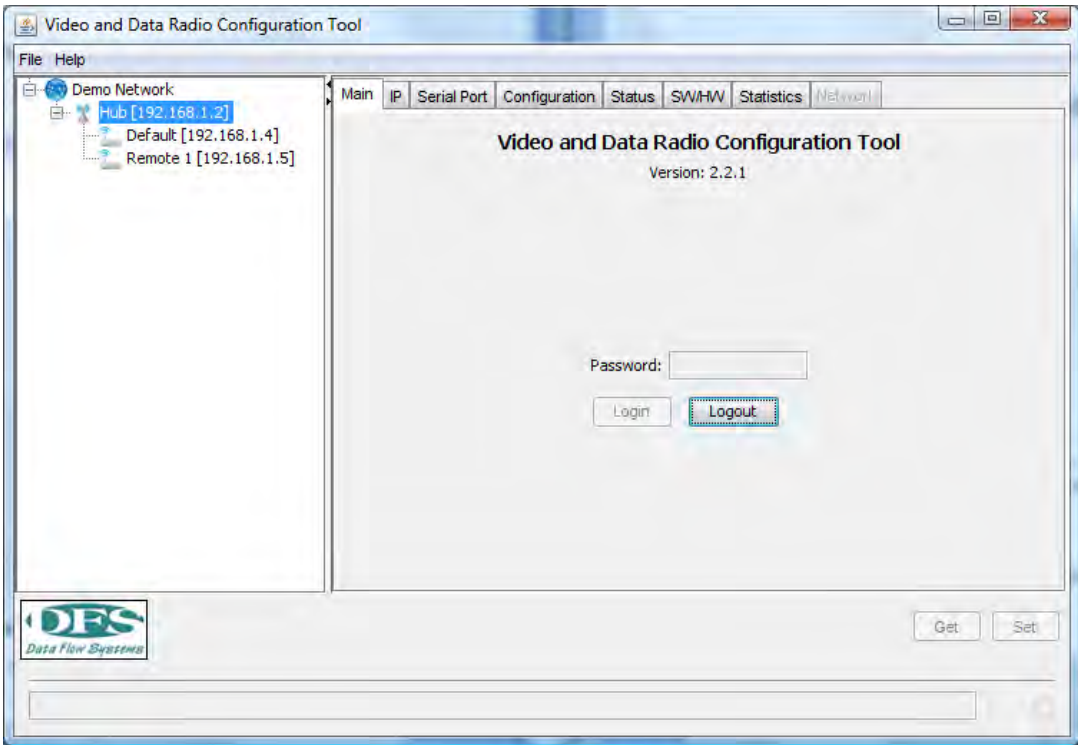

Figure 3: VDR EMS Login Screen
6. The Main screen will appear (See Figure 3). Enter a valid password and click on Login. The IP Tab will open if a valid password is entered. Contact DFS to obtain your password. **Section 4.0 of this manual contains the details of using the VDR Element Management System (EMS).** Jump to Section 4.0 for details on setting up the EMS and resetting the VDR IP addresses (i.e., changing from the default value).